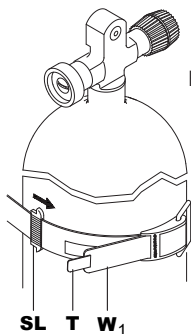
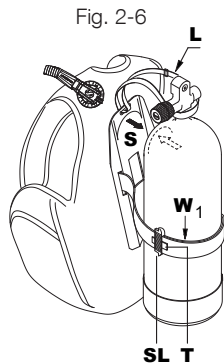

Fig. 2-5
Fig. 2-6
2. If the BC has a hard backplate, place the cavity (S) of the backplate on the shoulder of the tank (Fig. 2-6) and then fasten the strap (Fig. 2-5 and 2-7) of the quick-release belt (W1) around the tank.
3. Close the buckle (C) (Fig. 2 – 7). If the strap is too tight or too loose, open the hook and loop strap and the buckle to readjust the length of the strap (Fig. 2-5) of the quick-release belt (W1). For added safety, slide the loop (SL) (Fig. 2-5) around the strap end (T). In BCs with a hard backplate, with the tank mounted to the BC you can lift the entire unit using the handle integrated into the backplate.